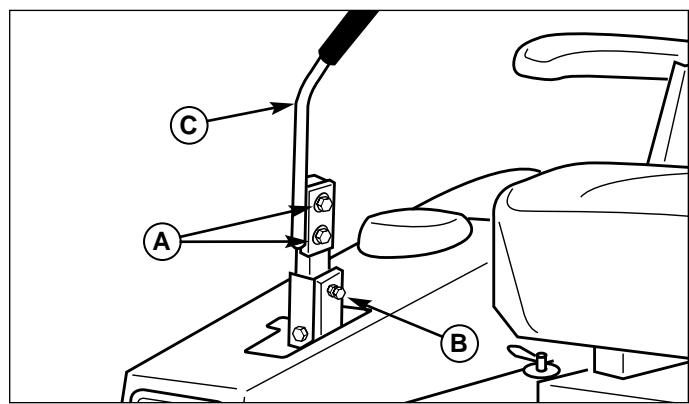

Figure 17. Control Lever Adjustment
Loosen the mount bolts (A, Figure 17) and pivot the lever(s) (C) to align with each other.